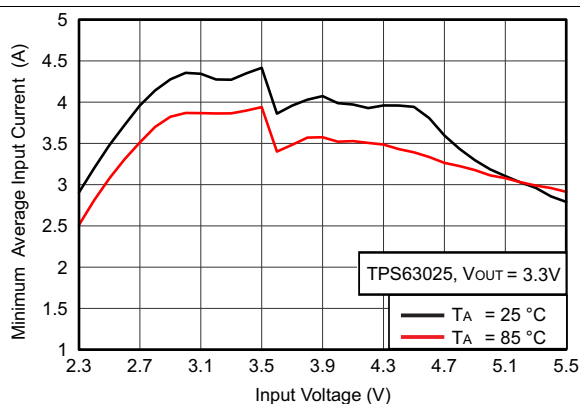

Figure 1. Minimum Average Input Current vs Input Voltage
(1) For minimum and maximum output current in a specific working point see Figure 1 and Equation 1 through Equation 4.
(2) Conditions:  $L=1\ \mu H$ ,  $C_{OUT}=2 \times 22\ \mu F$ .
(3) For variation of this parameter with Input voltage and temperature see Figure 1.
Given the curves provided in Figure 1, it is possible to calculate the output current reached in boost mode, using Equation 1 and Equation 2 and in buck mode using Equation 3 and Equation 4.
$I_{\text{IN}}$  = Minimum average input current (Figure 1)